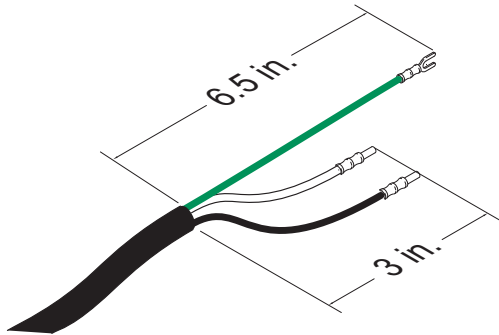

Fig. 3: Power Cord
- Add ferrules as necessary. See **Fig. 3**.